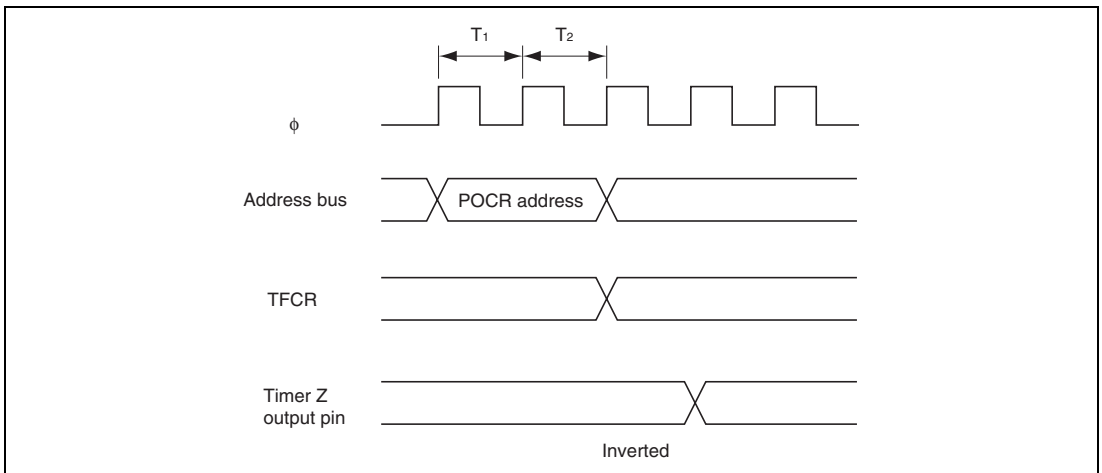

Figure 13.47 Example of Output Inverse Timing of Timer Z by Writing to POOCR
4. **Output Inverse Timing by POOCR:** The output level can be inverted by inverting the POLD, POLC, and POLB bits in POOCR in PWM mode. Figure 13.47 shows the timing.